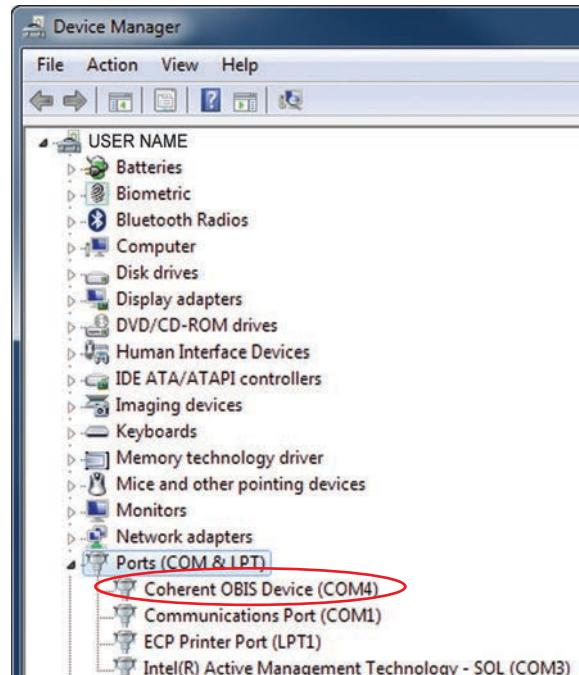

Figure H-2. Verify Device Connected
5. Verify that the device just connected to the PC is listed in Device Manager, as shown in the example in Figure H-2: